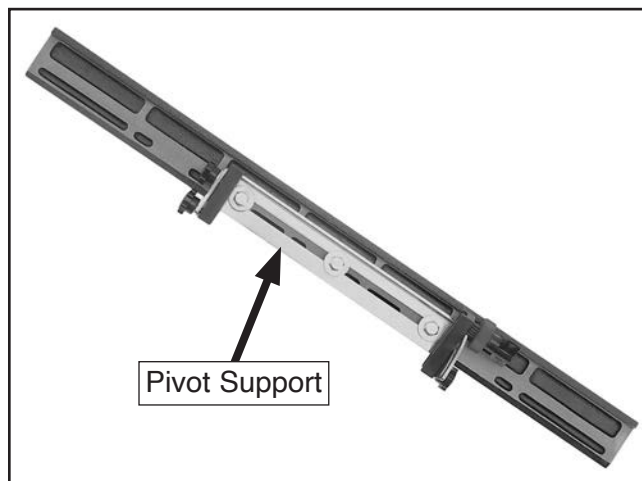

Figure 17. Pivot support attached to slide table.
3. Remove pivot support, then secure it to back of slide table with (3) hex nuts and flat washers removed in **Step 2** (see **Figure 17**).